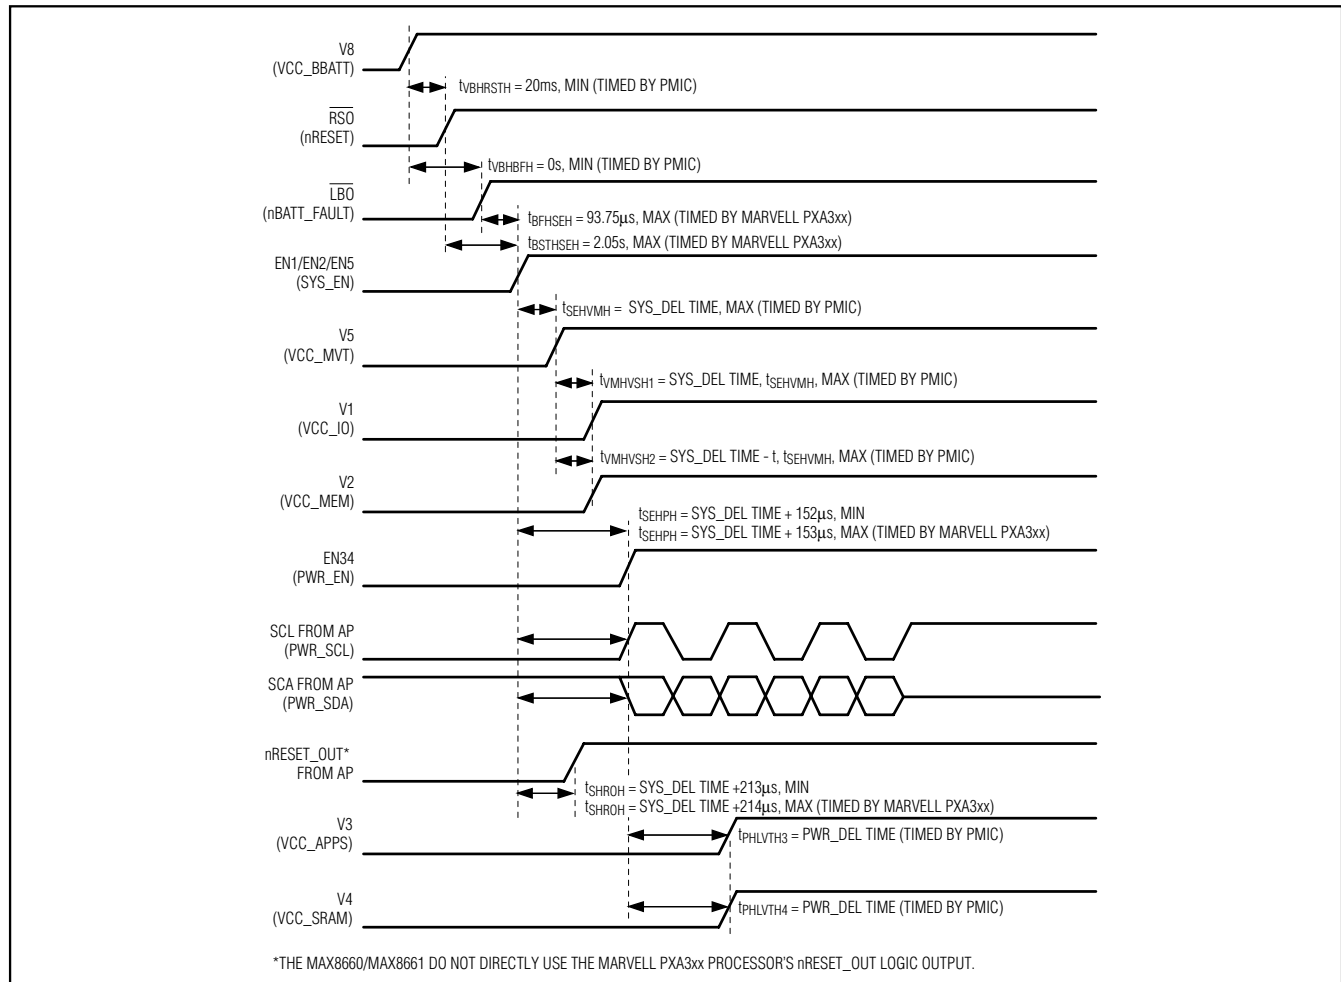

Figure 6. Power-Up Timing
Figure 6 shows the power-up sequence for the Marvell PXA3xx family of processors. In general, the supplies should power up in the following order:
- The PCFR register contains timers for the *SYS_DEL* and *PWR_DEL* timing parameters as shown in Figure 6. Each timer defaults to 125ms. When using the MAX8660/MAX8661, these timers may be shortened to 2ms to speed up the overall system wake-up delay.